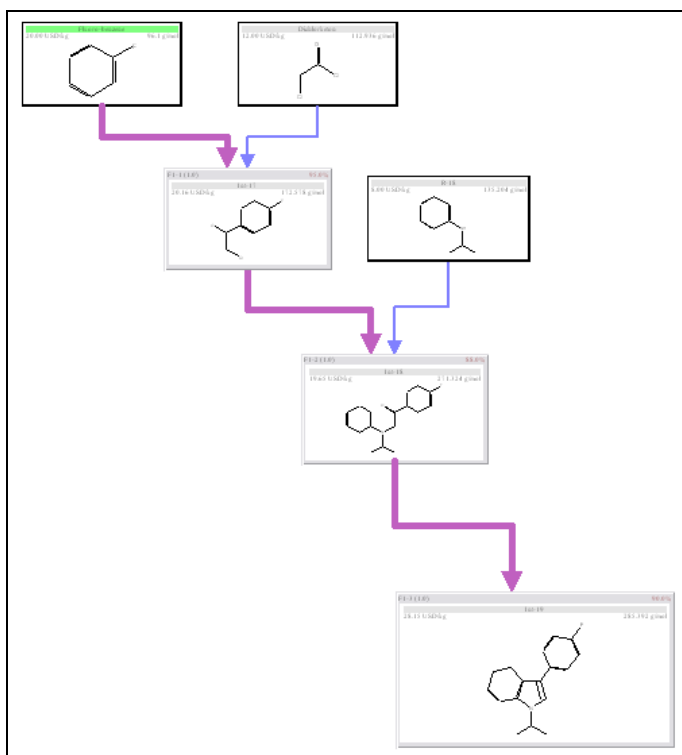

Figure 2: Route view of a process
At the earliest stage, a new product arrives through the research organization (or via contract from partner organizations). The first stage of development, **route selection**, is to design the basic set of chemical/biochemical transformations to make the product at a reasonable scale from the commonly available raw materials. Along with the key bio/chemical expertise, the process of route selection seeks input from process development and production engineers for the kinds of operations that are most easily managed in the available equipment. In addition, the procurement organization will provide estimated costs for raw materials. Even at this early stage, organizations will begin to consider where they intend to do long-term manufacture of the product, and they will start negotiating with suppliers for price on raw materials or key production steps. Figure 2 is an example of a route view of the process.
- Figure 2 - The basic set of transformations (A -> B -> C -> Product)